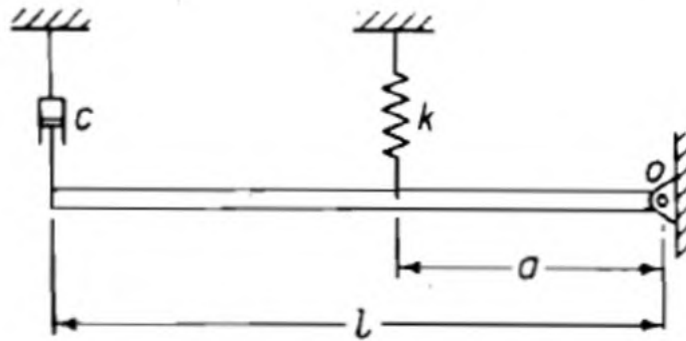

Fig.2.
18. a) Explain distributed mass and lumped mass models in the context of system idealization for dynamic analysis. (4)
- b) A rigid uniform bar of mass m and length l is pinned at O and is supported by a spring and viscous damper as shown in Fig.2. Set up the equation of motion for small oscillations of the rod and hence determine its undamped natural frequency (10)